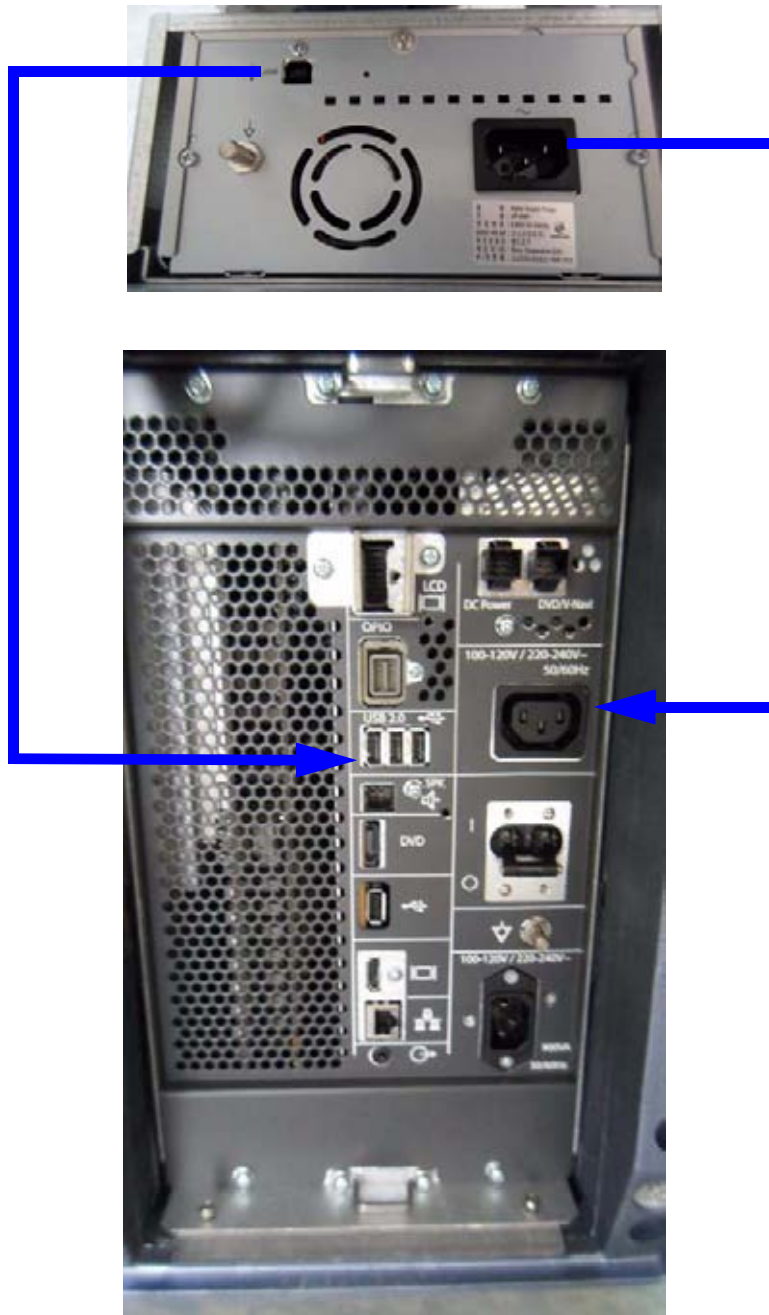

Figure 3-6 B&W Printer connection
- 2.) Connect the Black & White printer according to correct connection scheme as described in Figure 3-6 on page 3-13